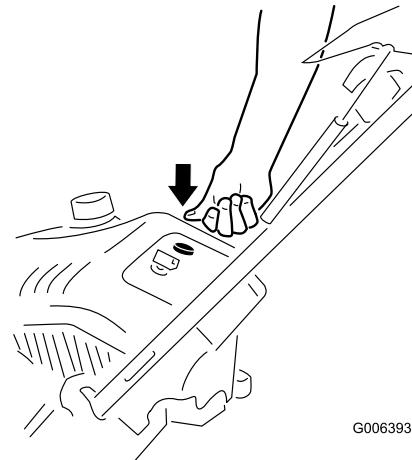

Figure 13
3. Firmly push in the primer 3 times with your thumb, holding the primer in for a second before releasing it each time (Figure 13).